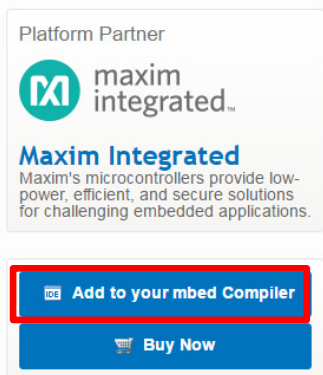

Figure 2. *Add to your mbed Compiler* button.
1. Add the MAX32600MBED platform to your compiler by clicking the **Add to your mbed Compiler** button at the top right side of the MAX32600MBED platform page (**Figure 2**).